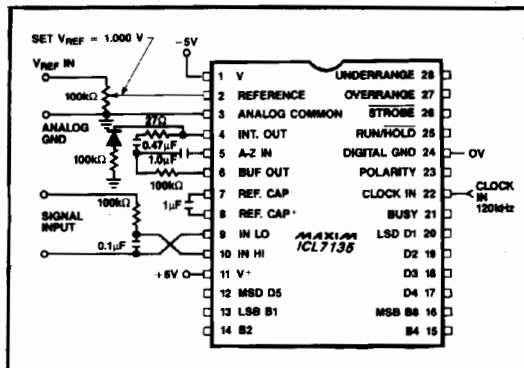

Figure 1. ICL7135 Test Circuit
Note 1: Tested in 4½ digit (20,000 count) circuit shown in Fig. 1, clock frequency 120kHz.
**Note 1:** Tested in 4½ digit (20,000 count) circuit shown in Fig. 1, clock frequency 120kHz.
The ICL7135 is tested for rollover using the circuit of Figure 1, with the 100kΩ resistor and diode in the circuit. The diode is noncritical, and is typically a low cost 1N4148. The resistor value is dependent on many factors including integrator swing, clock frequency, and the amount of rollover error due to "charge suckout" on the reference capacitor. 100kΩ is the optimum value for most circuits and is the value used in testing the ICL7135.